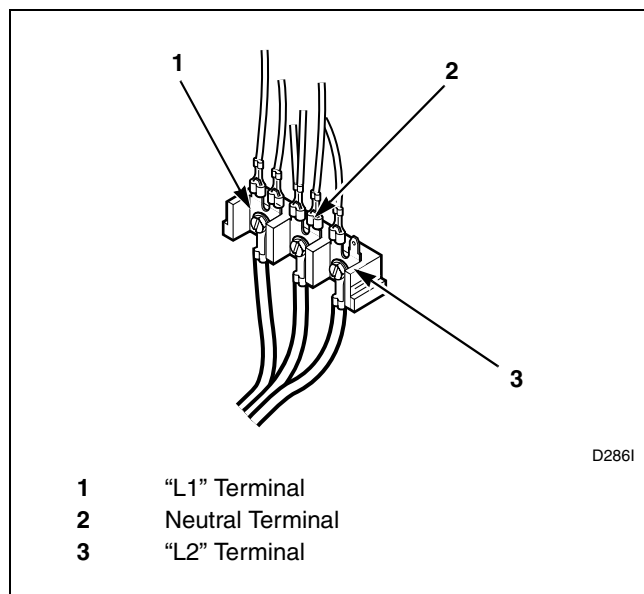

Figure 11
4. Use the three screws from the accessories bag to attach the power cord wires to the terminal block. Refer to *Figure 11*.